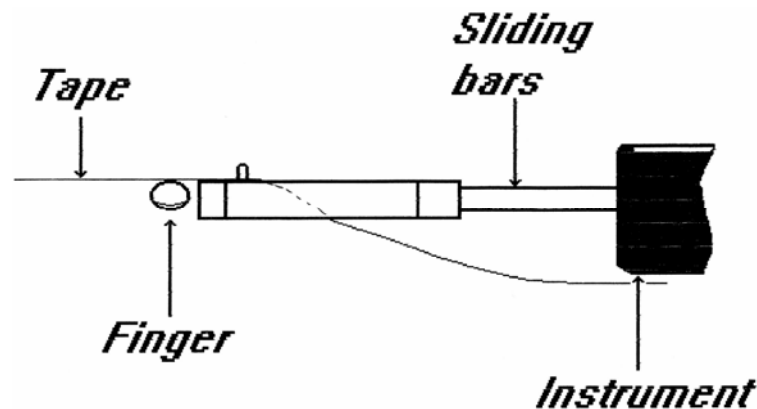

Figure 4 - Tensioning the Tape.
3.2.5 Place a finger under the tape, as shown in figure 4, and **gently** lift the tape so as to relieve a small amount of tension on the tape – the green light should go off. **Gently** removing the finger should cause the green light to come on again. If the green light stays off, turn the winding handle clock-wise a small amount until enough tension is being applied so that the green light goes on and off again with gentle placing and removing of the finger under the tape. The tape is now at the correct tension.